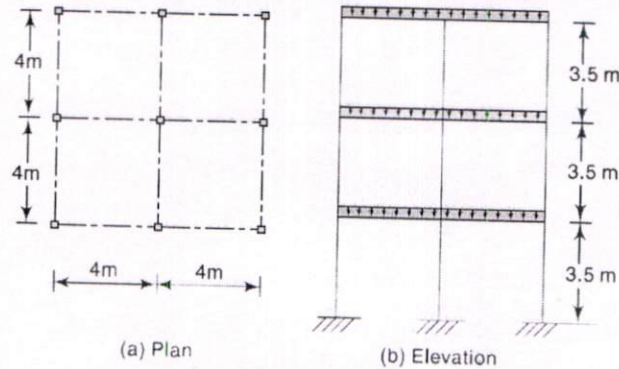

Fig. 1: Building configuration
13. B). The plan and elevation of a three-storey RCC school building is shown in Fig. 1 below. The building is located in seismic zone V. The type of soil encountered is medium stiff and it is proposed to design the building with a special moment-resisting frame. The intensity of DL is 10 kN/m^2 and the floors are to cater to an IL of 3 kN/m^2 . Determine the design seismic loads on the structure by equivalent lateral force method. 10M